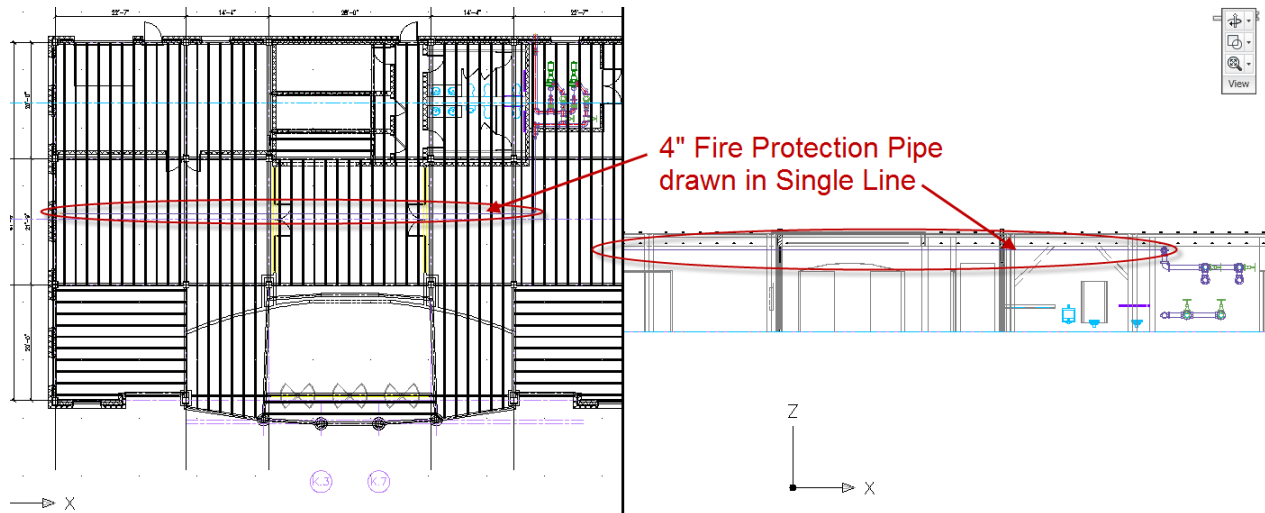

Figure 6.81
31. Move horizontally to the left side and click again (see Figure 6.81).